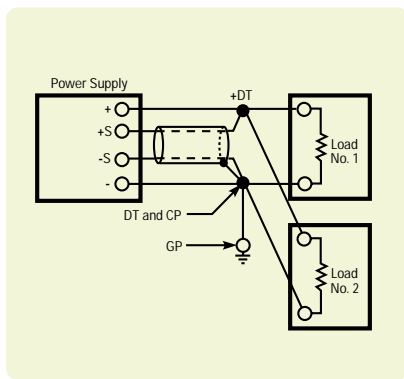

Figure 12
STEP 8. Remove the jumper connections between the power supply sensing and output terminals, and connect the power supply sensing terminals to the dc distribution terminals as shown in Fig. 12.